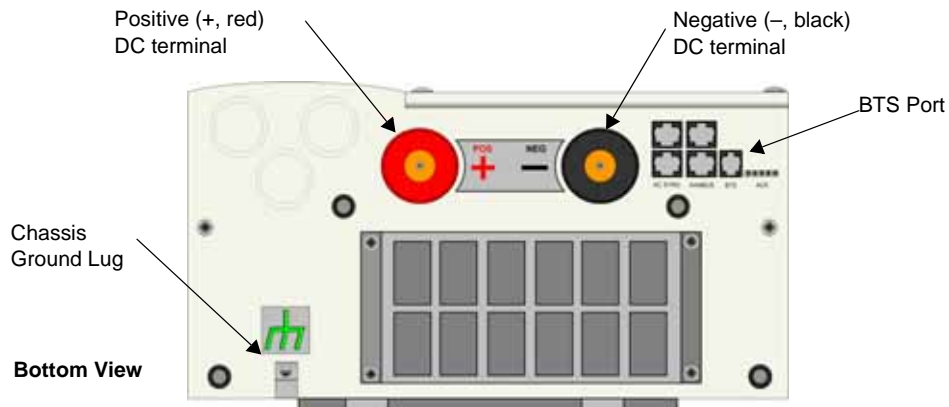
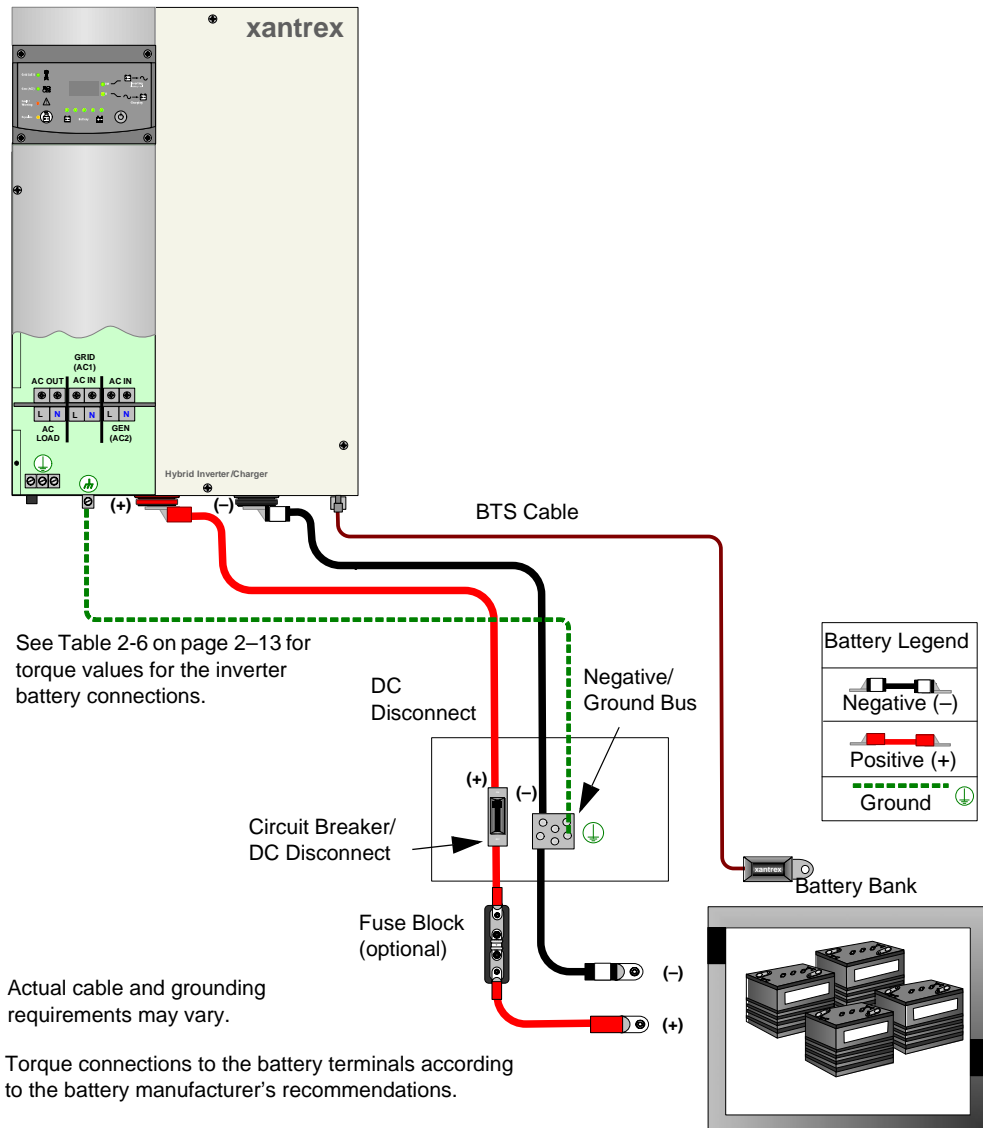

Figure 2-9 XW Inverter/Charger DC Connections
Figure 2-11 DC Connections to a Single Inverter
2. Install a DC fuse and disconnect switch or a DC circuit breaker between the inverter/charger and the battery. They must be installed in the positive side of the DC circuit, as close as possible to the battery. See Figure 2-9, “XW Inverter/Charger DC Connections” on page 2–15.
1. Insert the Battery Temperature Sensor plug into the BTS port. See Figure 2-9 and Figure 2-11.